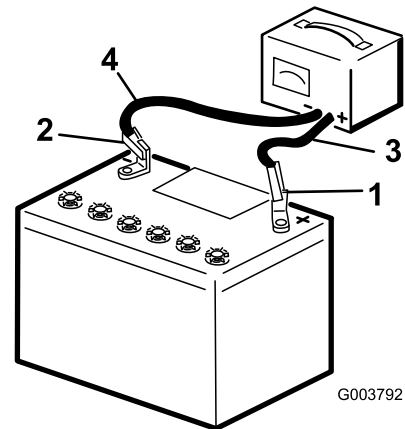

Figure 68
3. Connect the positive lead of the battery charger to the positive-battery post (Figure 68).
4. Connect the negative lead of the battery charger to the negative-battery post (Figure 68).
- When the battery is fully charged, unplug the charger from the electrical source, then disconnect the charger leads from the battery posts (Figure 68).